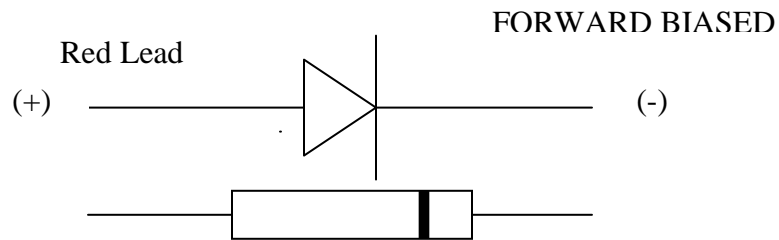

Figure 5.1
2. Using the connection shown in figure 5.1 check each diode using the diode testing scale on the DMM. Record your results in table 5.1.